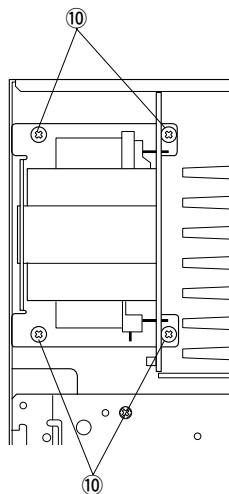

Fig. 8
- g. Remove 4 screws (⑩) and then remove the Power Transformer in Fig. 8.